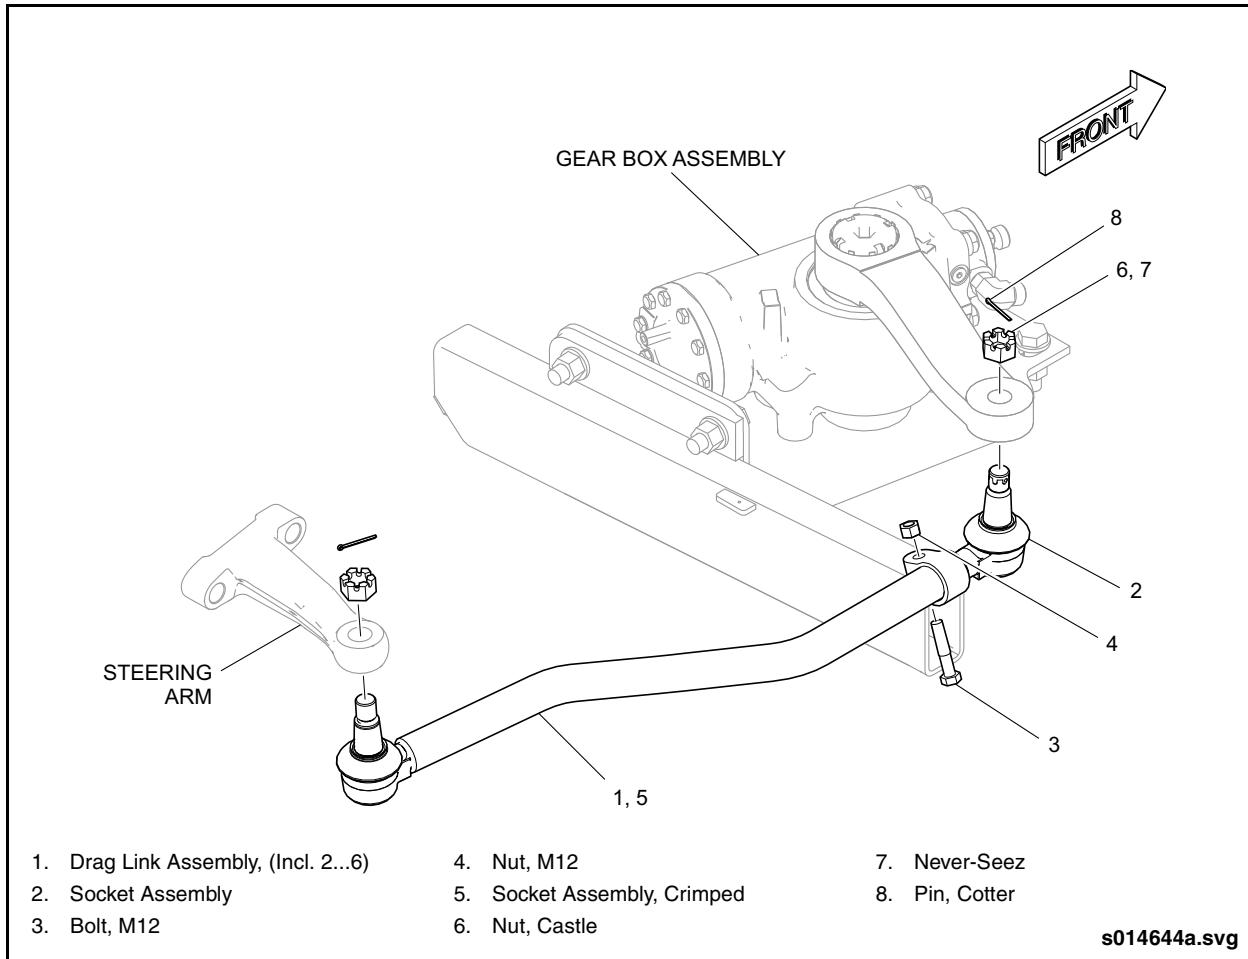

Fig. 3-15: Drag Link Installation
3. Remove castle nuts. See "Fig. 3-15: Drag Link Installation" on page 28.